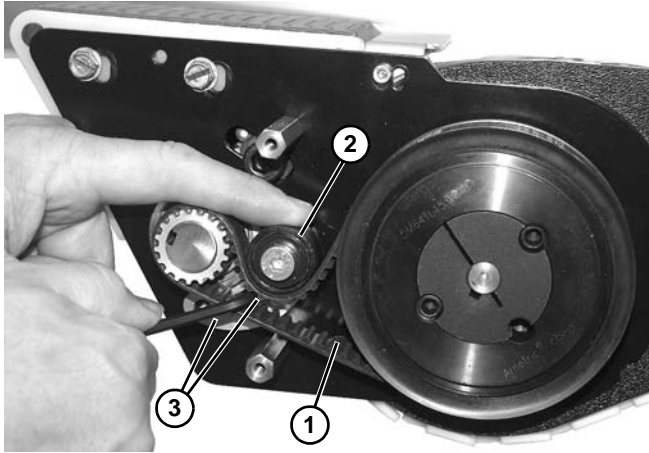

Figure 126
- On drive end, route and install belt (Figure 126, item 1) as shown. Press down on tensioner (Figure 126, item 2) and tighten two hex head screws (Figure 126, item 3)